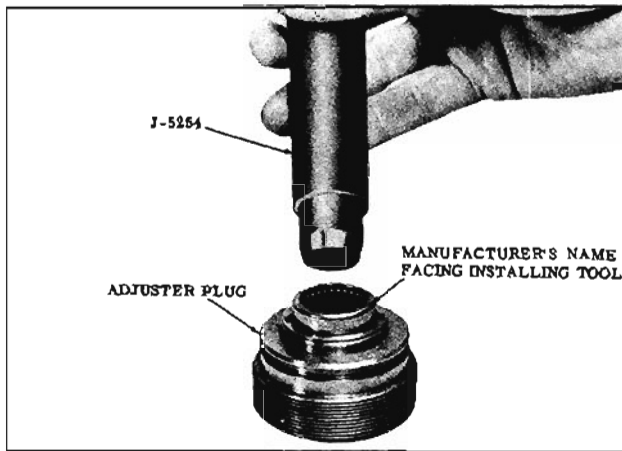

Fig. 8-51 Installing Bearing
1. If the needle bearing was removed, place new needle bearing over Tool J-5254 with the manufacturer's identification against the tool and drive or press bearing until it is flush with the surface of the seal bore. (Fig. 8-51)